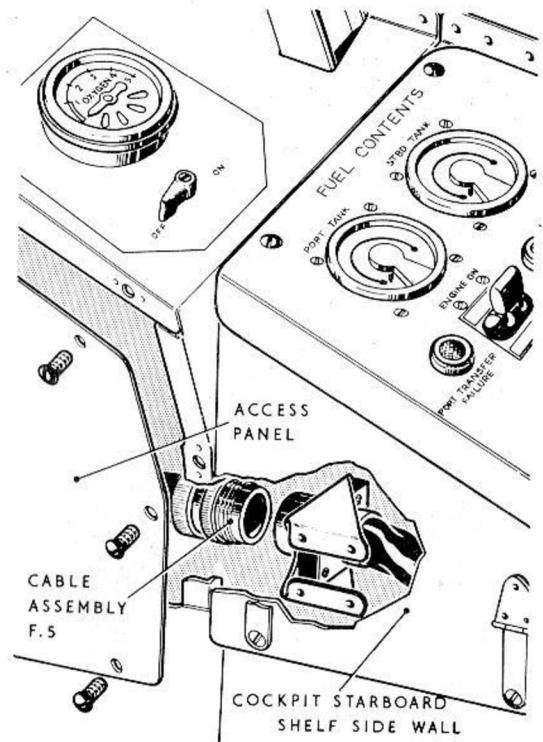

FIG.4 PLUG AT FORWARD END
- (3) Disconnect cables assemblies F33 and F34 from the A.C. junction box, fit approved caps and covers to the plugs and sockets and coil back the cable assemblies to the starboard shelf.
- (4) Disconnect cable assembly F5 from the plug mounting bracket at the forward end of the shelf (fig.4). Seal off the plug and socket with an approved cap and cover. Stow the cable assembly clear of the shelf.
- (5) Remove the mounting frame, carrying the D.M.E. control unit from the top surface of the shelf, by unscrewing the four screws. Disconnect the radio connector from the control unit and refit the mounting frame and control unit.
- (6) Release the emergency oxygen control cable duct, from the shelf side wall, by removing the bolt securing the clip around the top of the cable duct.
- (7) Release the shelf from the fixed structure by disengaging all the Dzus fasteners around the top face and side wall. Withdraw the shelf from the cabin, complete with cable assemblies F33 and F34.